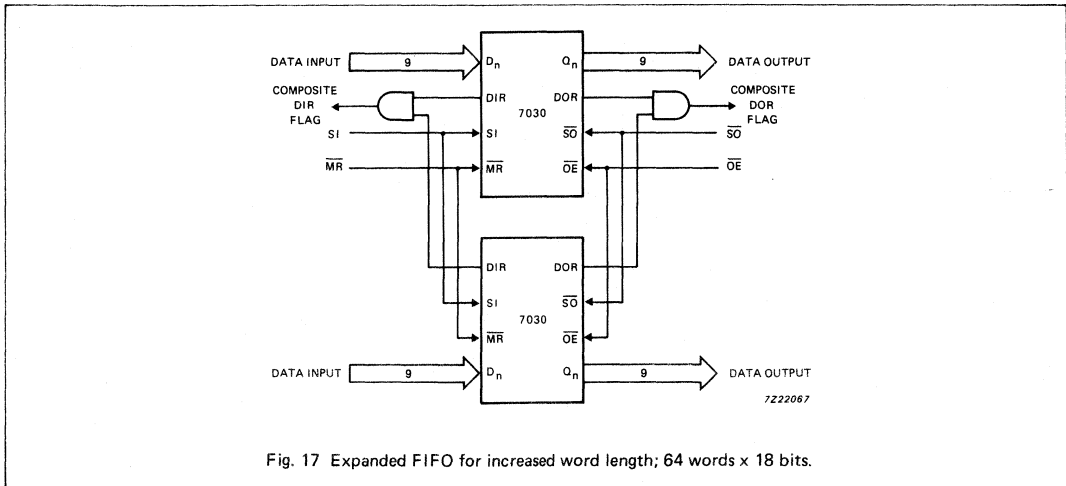
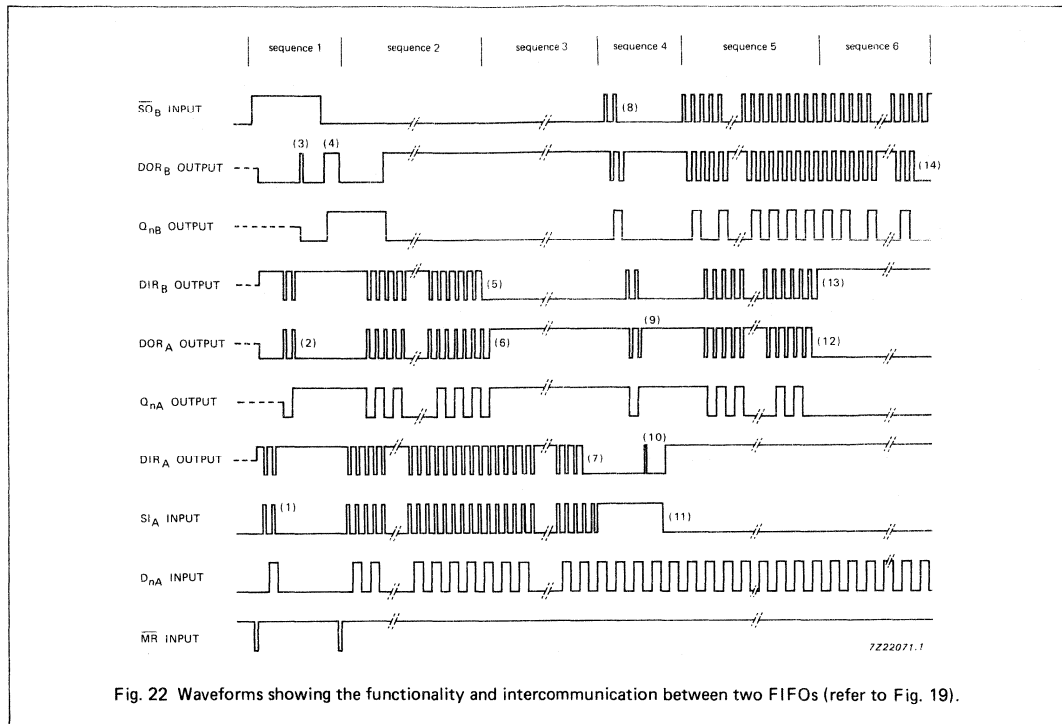

Fig. 17 Expanded FIFO for increased word length; 64 words x 18 bits.
Fig. 22 Waveforms showing the functionality and intercommunication between two FIFOs (refer to Fig. 19).
**Note to Fig. 17**
Fig. 22 shows the waveforms at all external nodes of both FIFOs during a complete shift-in and shift-out sequence.
The PC74HC/HCT7030 is easily cascaded to increase word capacity without any external circuitry. In cascaded format, all necessary communications are handled by the FIFOs. Figs 17 to 19 demonstrate the intercommunication timing between FIFOA and FIFOB. Fig. 22 gives an overview of pulses and timing of two cascaded FIFOs, when shifted full and shifted empty again.
**Note to Fig. 22**